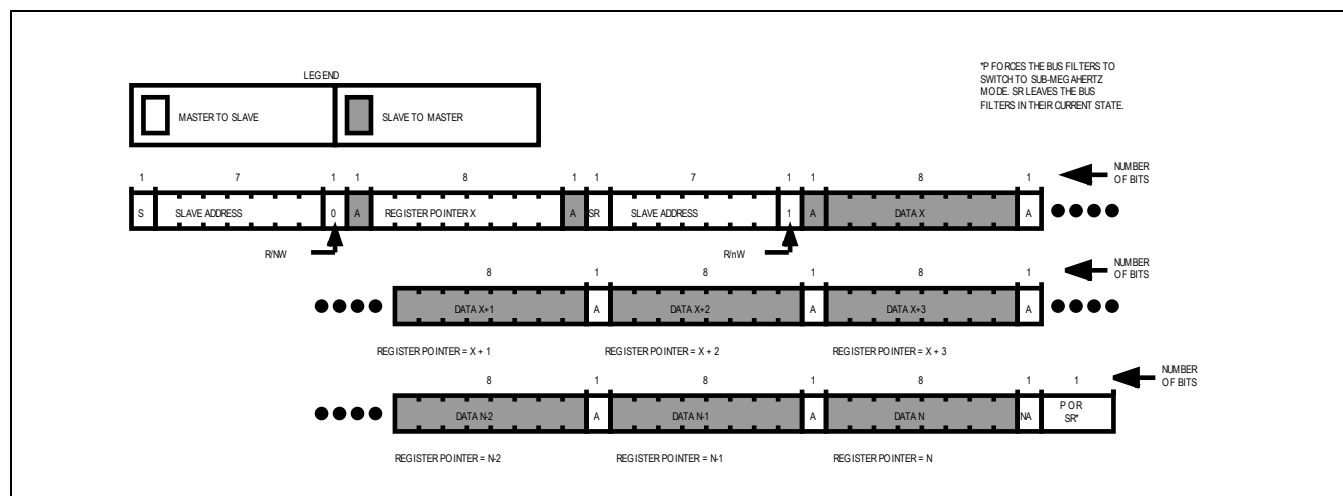

Figure 32. Reading Continuously from Sequential Registers X to N
Figure 32 shows the protocol for reading from sequential registers. This protocol is similar to the read byte protocol except the master issues an acknowledge to signal the slave that it wants more data: when the master has all the data it requires it issues a not acknowledge (nA) and a stop (P) to end the transmission.